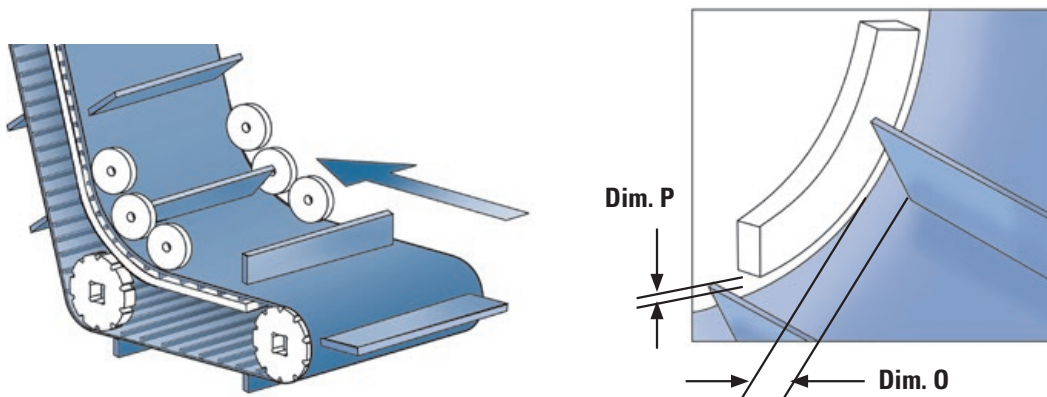

Figure 19
- Clearance between shoe and cleats or side walls, Figure 19, Dim. O: 0.25" (6 mm)
- Clearance between base of shoe and belt conveying surface, Fig. 19, Dim. P: .063" (1.5 mm)